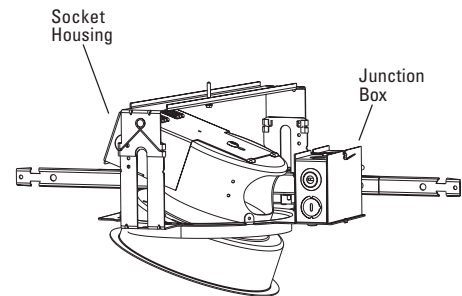

Figure 2
3. Push reflector through mounting frame opening, making sure to tilt reflector as shown in Figure 2. Align keyhole slot in reflector with reflector retaining screw and tighten securely. **NOTE - For best results, position socket housing opposite of the ballast where applicable.**